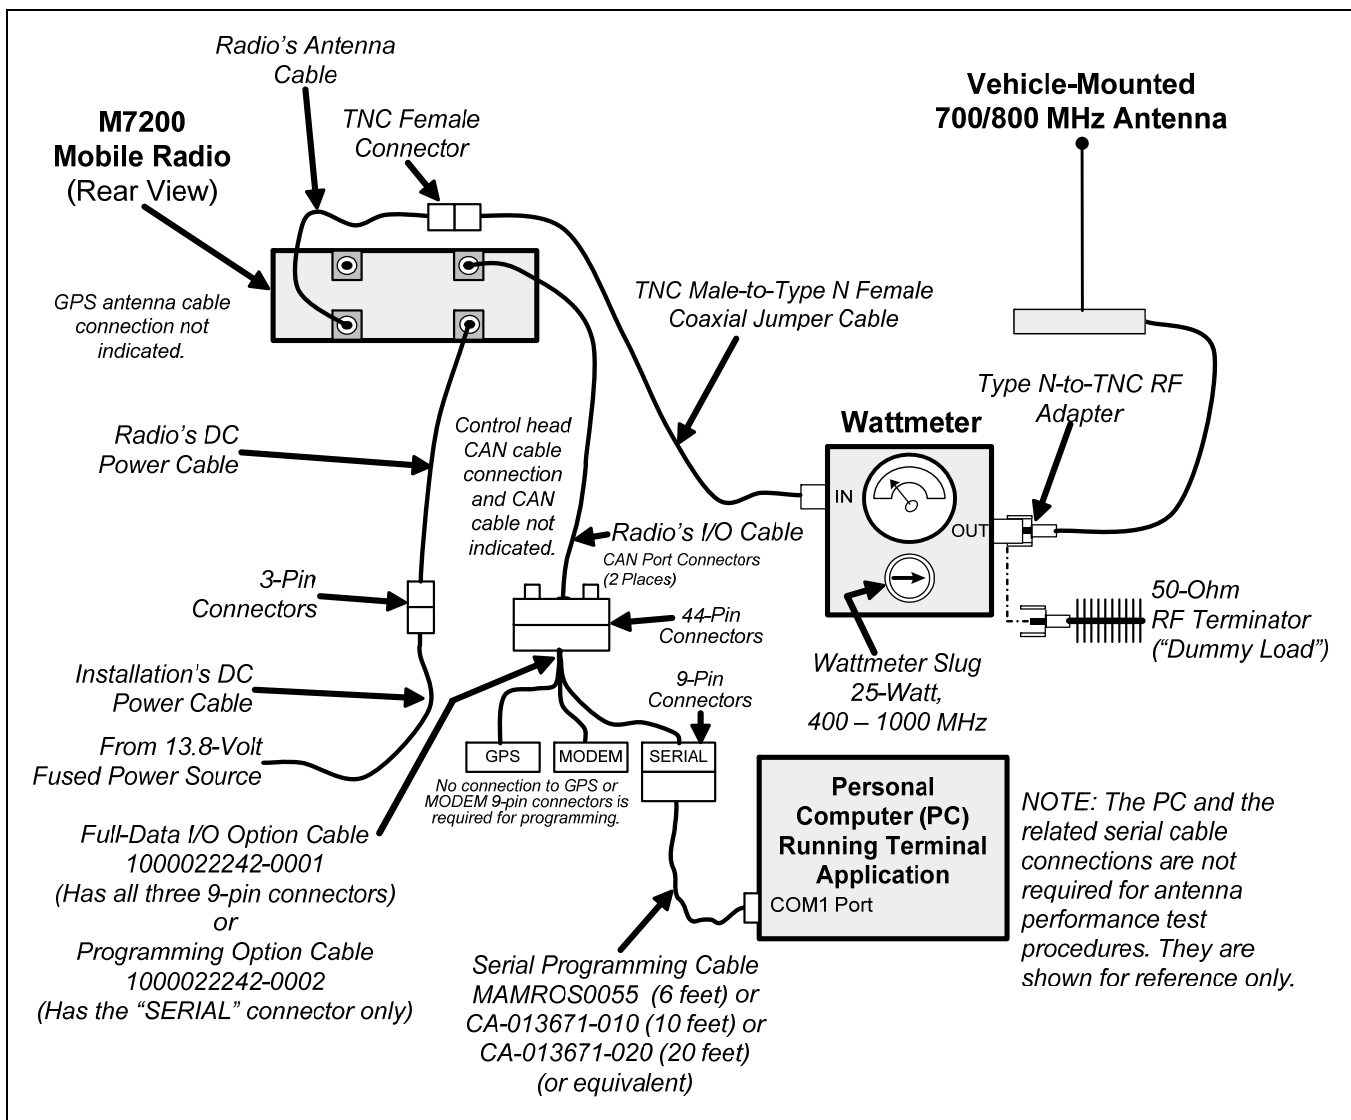

Figure 16-1: Wattmeter Connections for Antenna System Tests
- Using the Type N male to TNC male RF coaxial jumper cable, connect the radio's antenna connector to the wattmeter's input connector. Refer to Figure 16-1 as necessary.
1. Connect the antenna cable from the vehicle-mounted 700/800 MHz antenna to the wattmeter as shown in Figure 16-1.